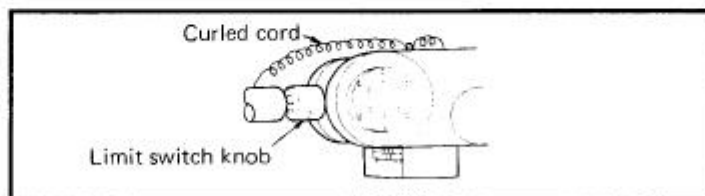

Fig. 7.2
When the hand has already been attached, check the following two points to determine of the relation between the wires to the hand and the hand attachment part are as shown in Fig. 7.2.
- (1) Is the limit switch knob (refer to Fig. 7.2) visible on the right side as seen from the front?
- (2) Is the hand wiring twisted or stretched and is it attached to the top?
If the condition is not as shown in Fig. 7.2, adjust to this condition by pushing the **R** (rotation) or **P** (bending) keys of the T/B. After completion of the above, origin output is possible by the following procedure.